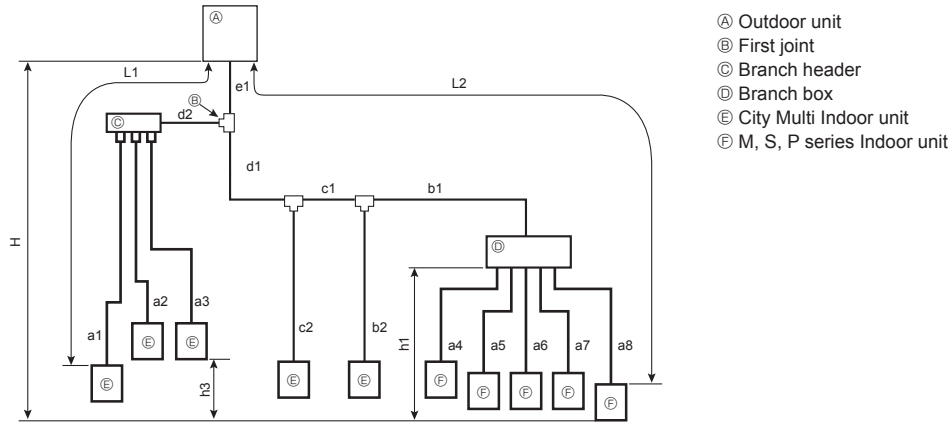

Fig. 4-5 (a)
4.1.3. Mixing system (City Multi indoor units and M, S, P series indoor units (Connection with Branch box)) (Fig. 4-5)